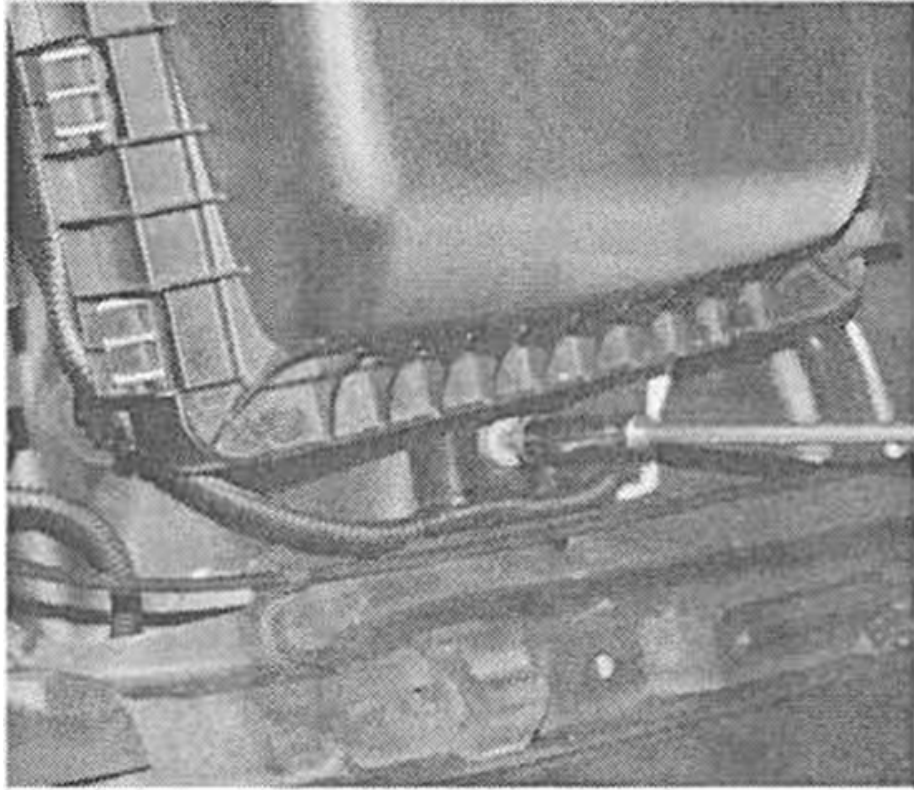
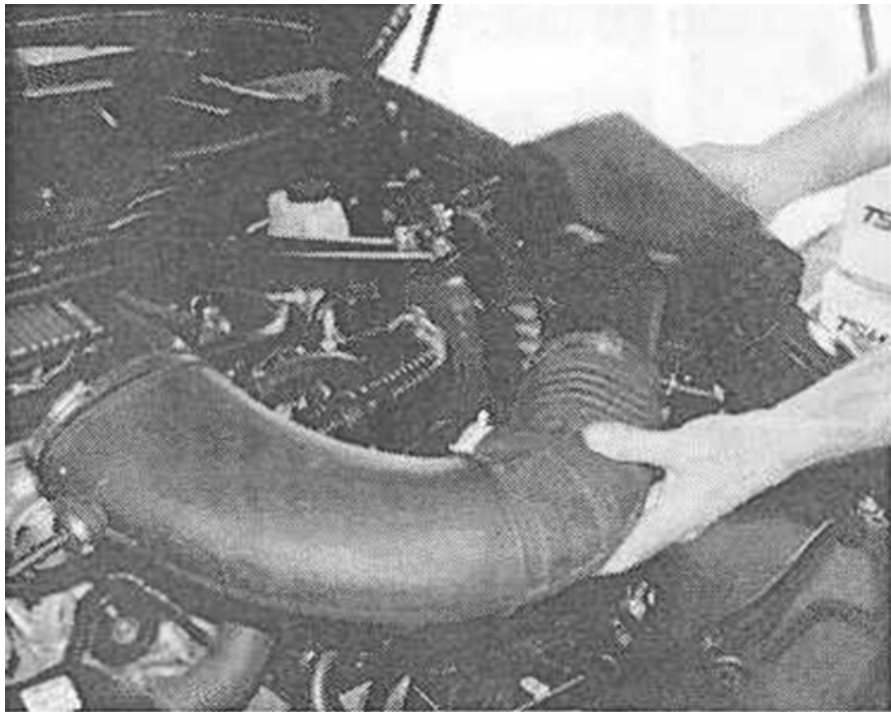

Figure 2
Figure 4
2. Disconnect the electrical connector for the mass air flow sensor. Unbolt the lower half of the airbox as seen in Figure 2. Gently pull up on the box and dislodge the rubber grommets from the holes in the fender. The entire assembly should come out in one piece as seen in Figure 4.